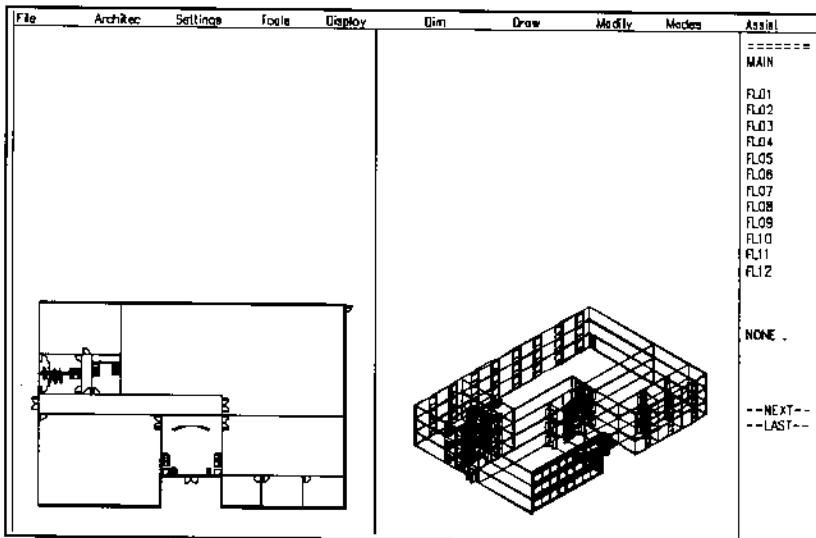
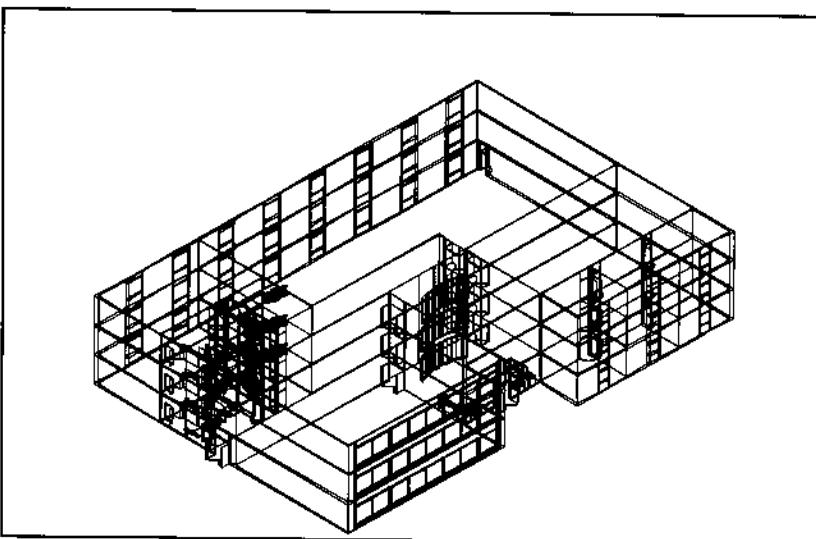

Figure 21.
Figure 22.
2. Level FL02 is copied to FL03 as shown in Figure 21 and Figure 22. (Figure 22 is an enlarged isometric view of Levels FL01, FL02 and FL03.)